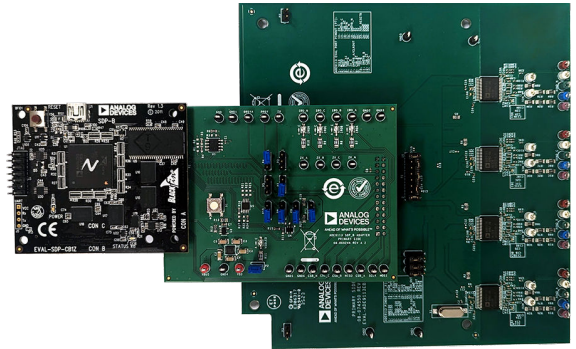

Figure 13. EVAL-ADE9113KTZ Hardware Setup for Daisy-Chain SPI
2. Connect the SDP-B (J2) to the SDP-B adapter (P1) using the 120-pin connector. See Figure 13 for reference.